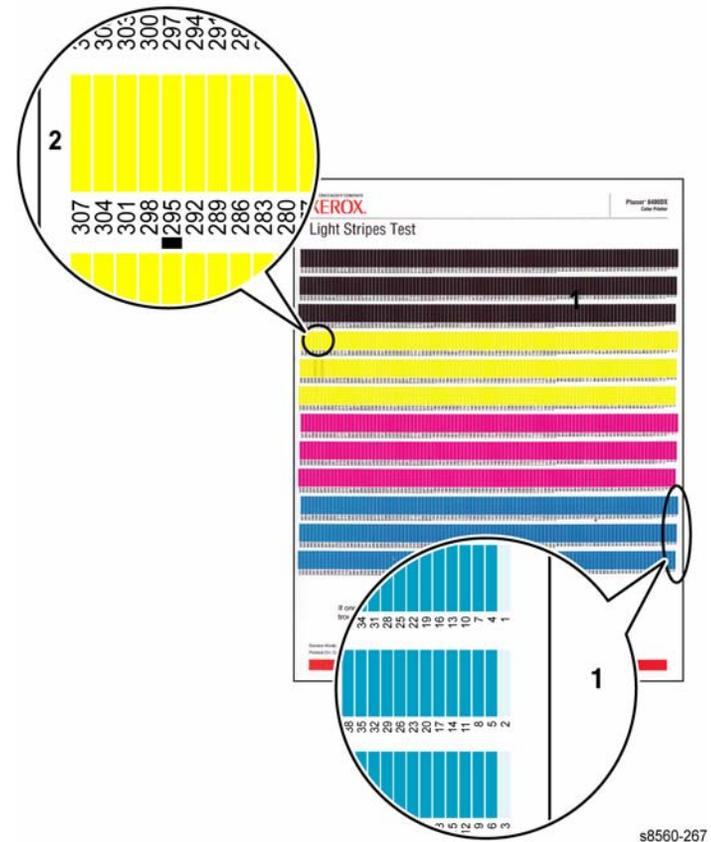

Figure 1 Jet Substitution Exceptions
Jet Substitution Mode, refer to Figure 1, is not effective in correcting situations where 3 or more consecutively numbered jets (1) are weak or missing. Jet substitution requires the presence of an numerically adjacent functional jet to replace the affected jet. As an example, If jet 2 is missing, jet 1 or jet 3 could substitute for 2. If 1, 2, and 3 were all missing, no jet is available to substitute for 2. Once Jet Substitution mode is enabled for a particular jet, the Light Stripes Test page displays a black line (2) underneath the substituted jet number. It is normal for the substituted jet to appear either blank or filled on Light Stripes Test page after substitution. Also, Saved & Stored jobs stored on the hard drive will not print correctly because they were rendered before the Jet Substitution was made.